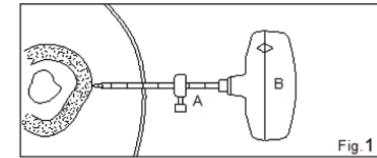

Fig. 1
- FIG. 1** Depending on the depth of the bone to be reached, adjust the depth gauge on the Cutting Cannula (A) to the appropriate centimeter marker and tighten to provide a visual guide. Introduce, rotating counterclockwise, the assembled Cutting Cannula and Stylet and Handle (A+B+F) until engaged with the bone surface.